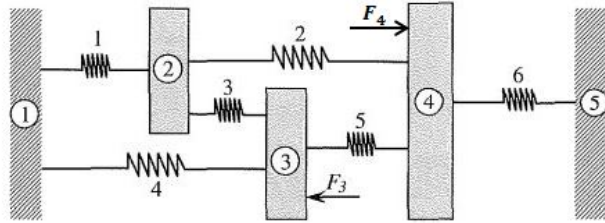

Figure 3:
3. Figure 3 shows a system of three rigid bodies, 2, 3, and 4, connected by six springs and supported by the rigid walls 1 and 5. A horizontal force  $F_3 = 500\text{N}$  and  $F_4 = 1000\text{N}$  is applied on body 3 and body 4 respectively in the direction shown in the figure. Find the displacements of the three bodies and the forces (tensile/compressive) in the springs.